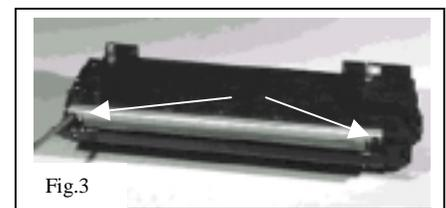

Fig.3
2. Remove Doctor Blade by removing two Phillips screws, (**fig.3**) located at each end of the Doctor Blade. Inspect Doctor Blade, replace if necessary.